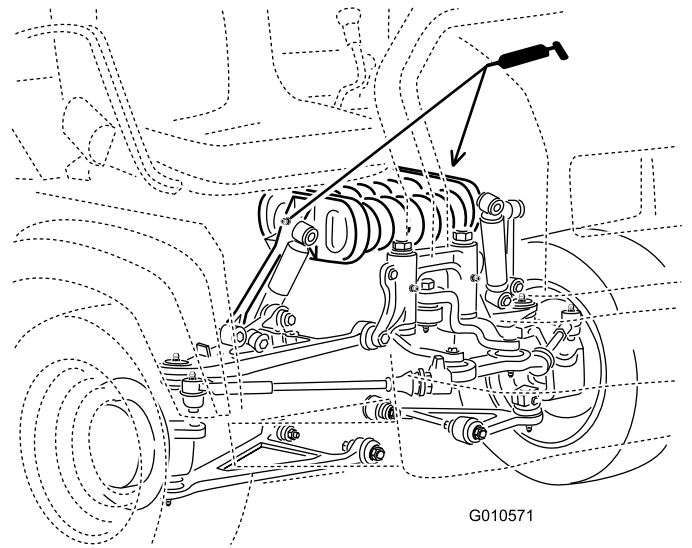

Figure 27
- **Spring tower (2);** refer to Figure 27